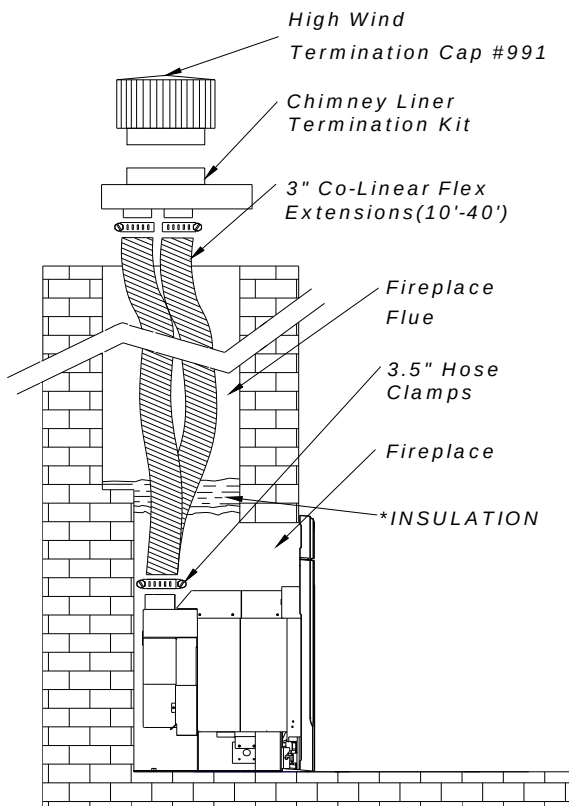

**Figure 4: Co-linear Flex System**
**DO NOT** vent The DVI-Ht jointly with any other solid fuel or gas appliance. Vent the DVI-Ht directly to the outside of the building using a proper termination as listed in the following pages. Typical venting configurations are shown in *Figures 4 & 5*. If the vent-air system is disassembled for any reason, reinstall per the instructions provided in the *Assembling the Unit* section of this manual on page 18.